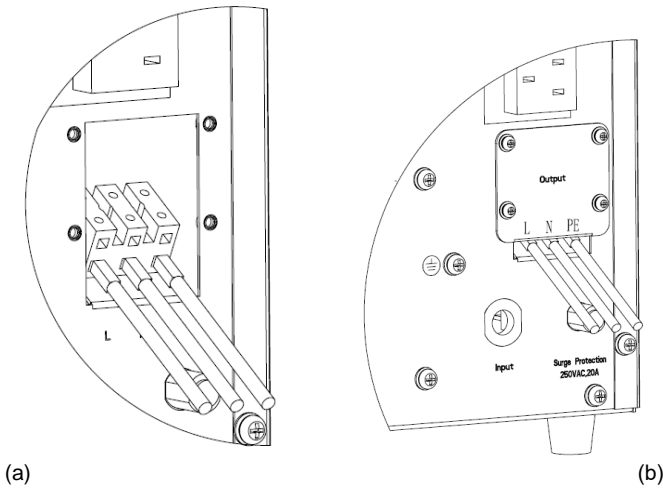

Fig.3 Output terminal of 3KVA
- 2). Use AWG14 wires for terminal wiring configuration as fig.3(a)
- 4). Put back the cover to the rear panel as fig.3(b).